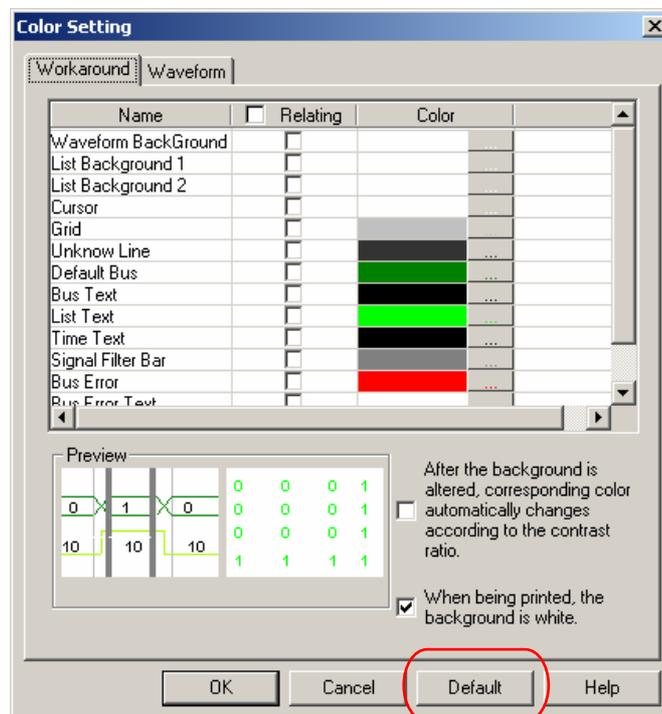

Fig. 6-6 – Restore Color Default
**A:** Yes, there is. Click **Tools** from the Menu Bar, and select **Color Setting**; click **Default**. However, this restores everything in this window. You must make a further adjustment if the color setting is the only thing you want to restore. See Fig. 6-6.